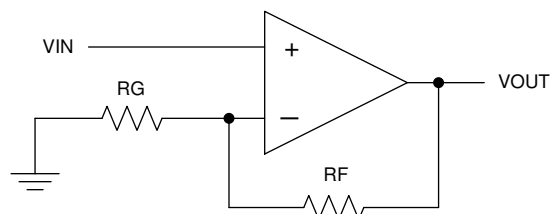

Figure 9-5. Schematic Representation
- Place the external components as close to the device as possible. As shown in Figure 9-5, keep RF and RG close to the inverting input to minimize parasitic capacitance.